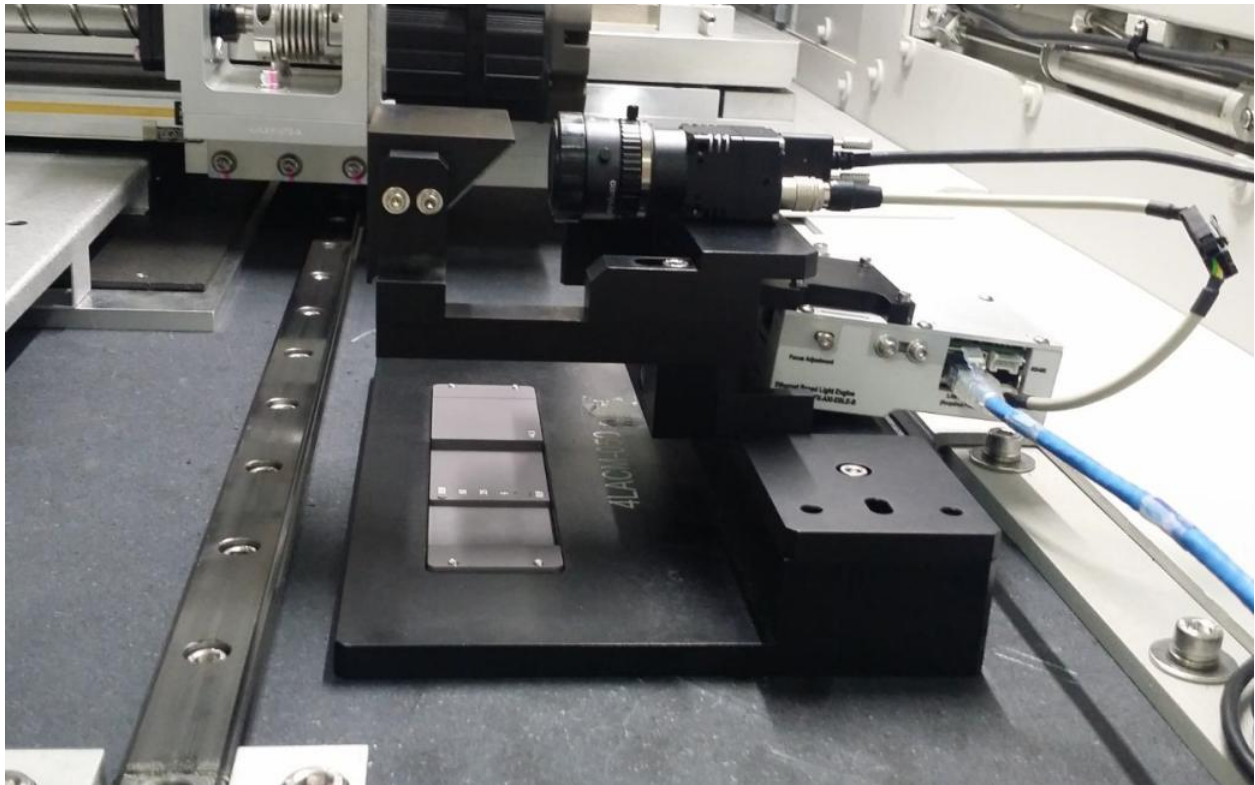

Figure 3 OFFLINE JIG & MODULE LOCATION
3. Open Front Access Door , gently allocate “STD/XXL PSP Offline Adjustment Jig ” (Part ID- 4XASPP-A002) at Granite area (May refer to below Figure 3 for the desire location)